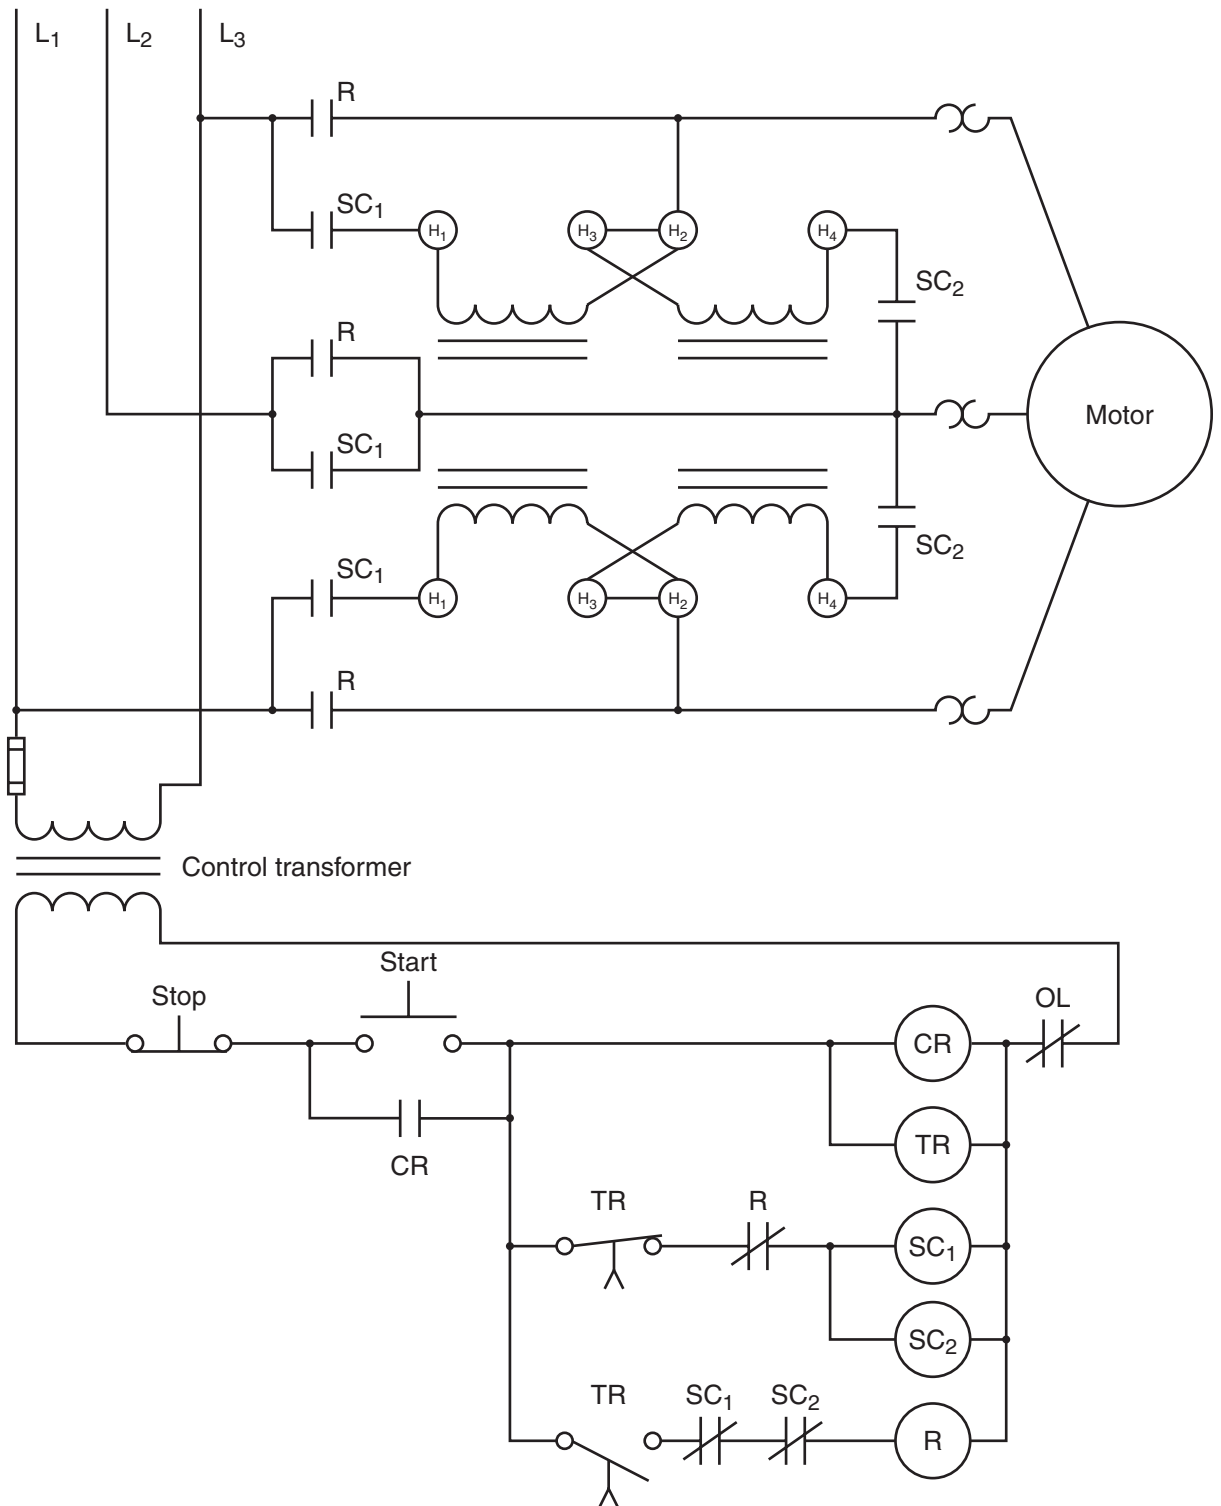

Figure 41-1 Autotransformer starter.
A schematic diagram of this connection is shown in Figure 41-1. Notice that there are a total of five starting contactor (SC) load contacts needed during the starting period. Contactors that contain five load contacts can be purchased, but they are difficult to obtain and they are expensive. For this reason, two three-phase contactors will be used to provide the needed load contacts. This can be accomplished by connecting the coil of SC_1 and SC_2 contactors in parallel with each other.
1. Assuming that relay CR is an 8-pin control relay, and that timer TR is a Dayton model 6A855, place pin numbers beside the components of CR and TR in Figure 41-1. Circle the pin numbers to distinguish them from wire numbers.
2. Place wire numbers beside all circuit components in Figure 41-1.
4. Connect the control section of the circuit shown in Figure 41-1.
4. Assume that the line-to-line voltage in Figure 41-1 is 480 volts. Also assume that when the start button is pressed, the motor starts with 240 volts applied to the motor. When the start button is released, however, the motor stops running. Which of the following could cause this problem?
5. Refer to the circuit shown in Figure 41-1. When the start button is pressed, nothing happens for 5 seconds. After 5 seconds, the motor suddenly starts with full voltage connected to it. Which of the following could cause this problem?